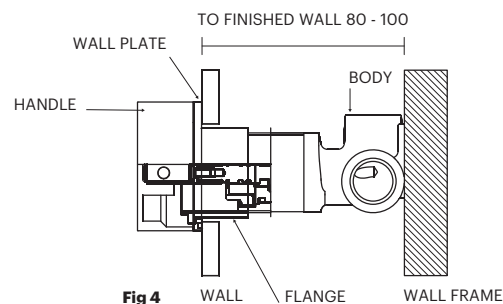

Fig 4
4. Place flange washer over the flange and screw flange on the body through the wall plate clockwise until wall plate flush with the finished wall as shown in Fig 4.